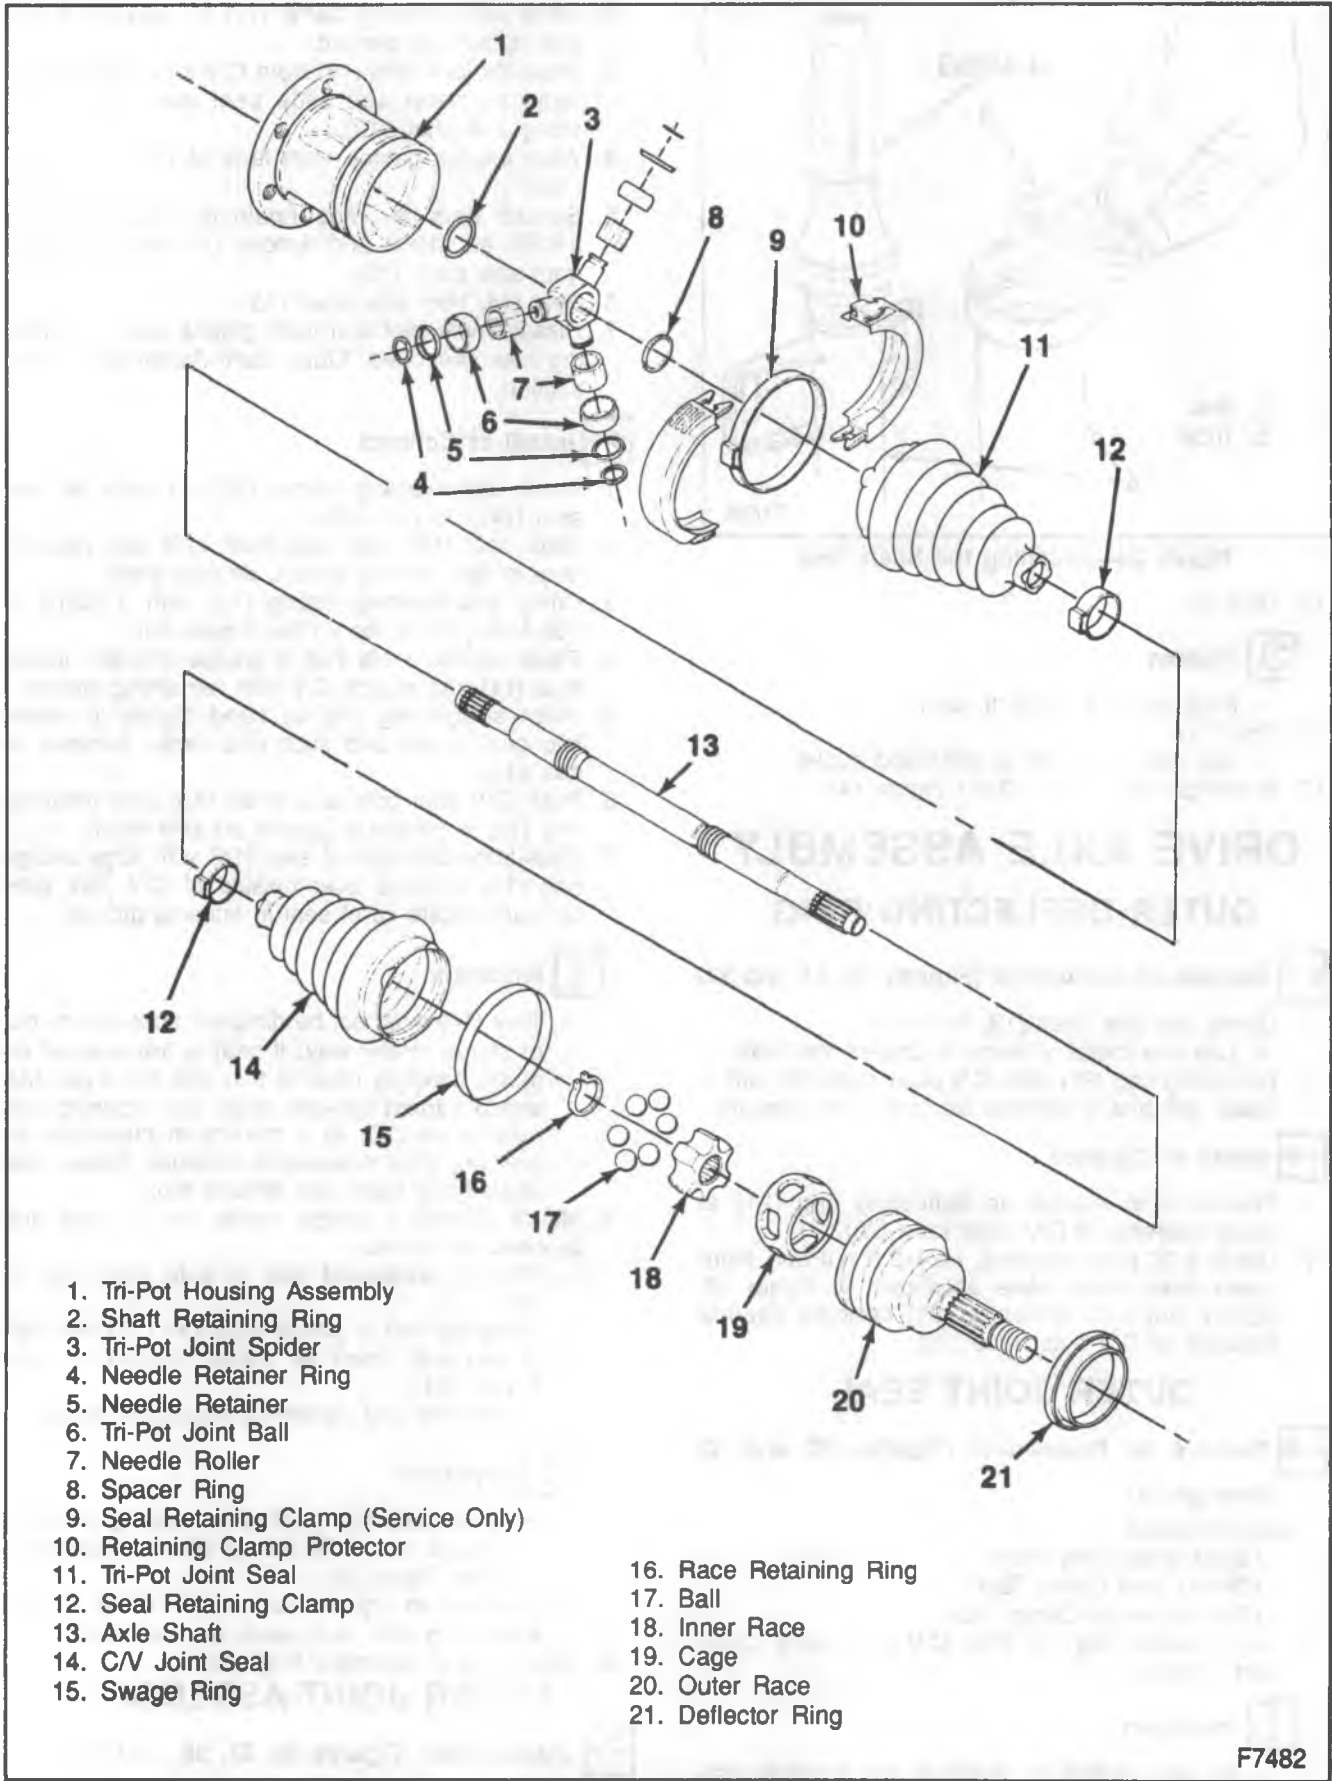

Figure 30—Front Drive Axle
Remove or Disconnect (Figures 30, 31 and 32)
Remove or Disconnect (Figures 30 and 33 through 36)
Disassemble (Figures 30, 37, 38, and 39)
- ↔ Remove or Disconnect (Figures 30, 35, 40, 41, 42 and 43)**